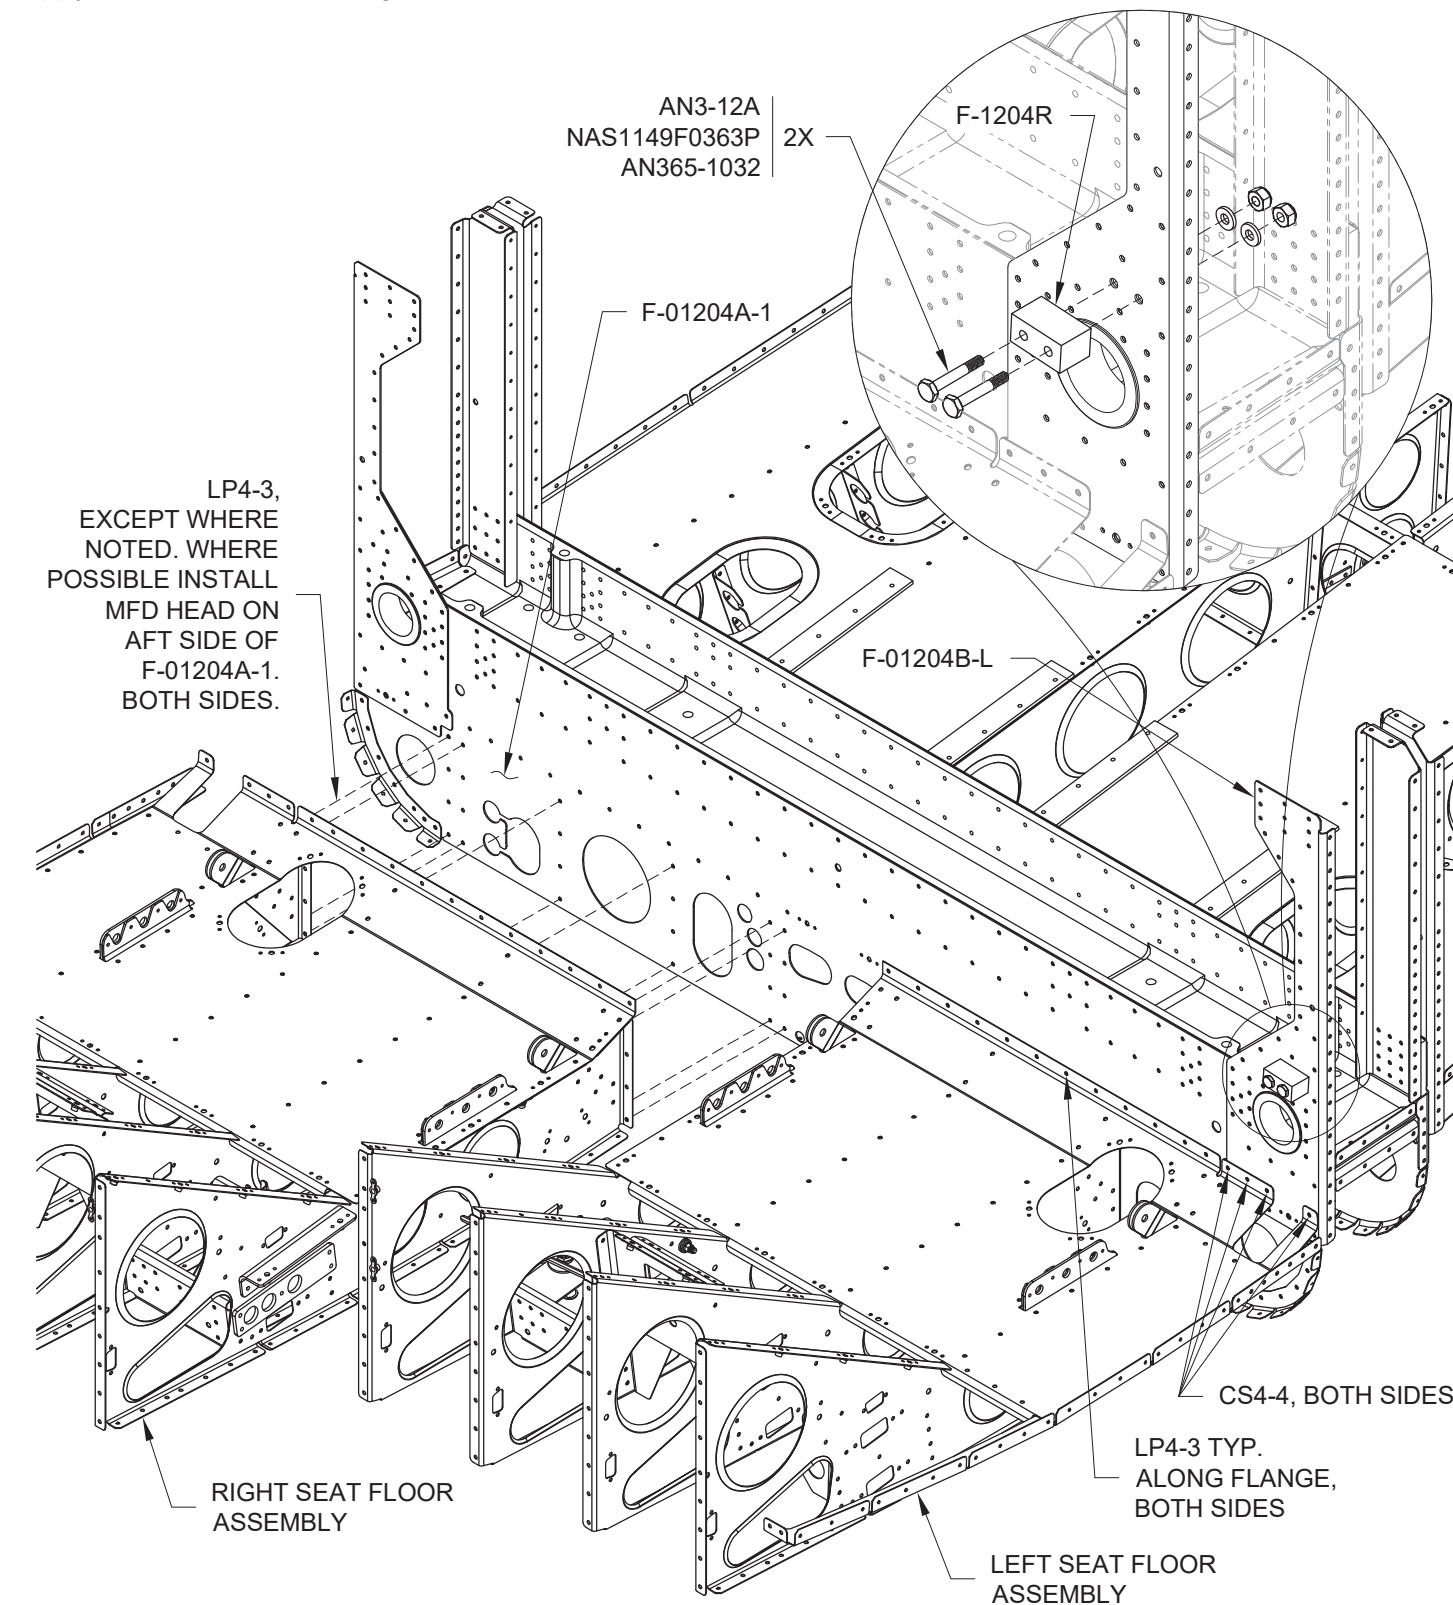

FIGURE 2: RIVETING SEAT FLOOR ASSEMBLIES
Step 4: Bolt F-1204R to F-01204B-L using the hardware called out in the Figure 2 detail.
Step 5: Rivet the Left and Right Seat Floor Assemblies to F-01204A-1 Center Section Bulkhead using the rivets called out in Figure 2. Rivet call-outs apply to both sides of the fuselage.